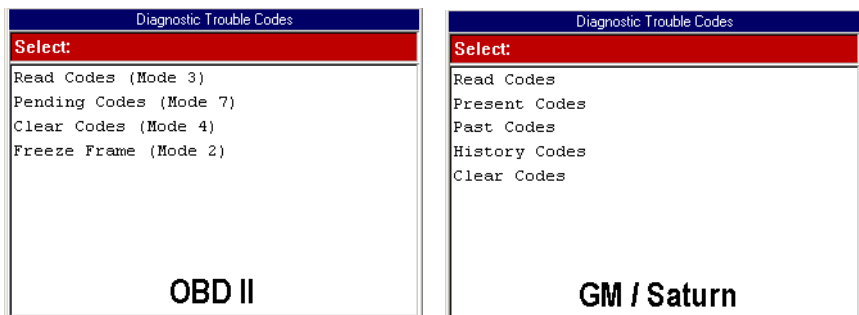
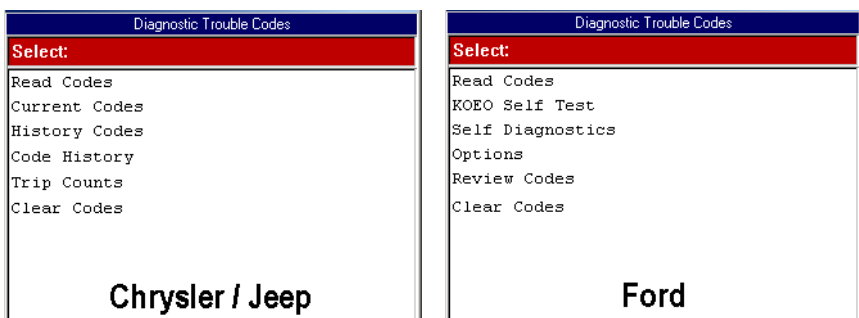

Figure 3.2: Diagnostic Trouble Codes Screen Examples — OBD II and GM / Saturn
Figure 3.3: Diagnostic Trouble Codes Screen Examples — Chrysler / Jeep and Ford
- 2 Select **Diagnostic Codes** and press the **ENTER** key. This displays the Diagnostic Trouble Codes screen (Figure 3.2 and Figure 3.3).